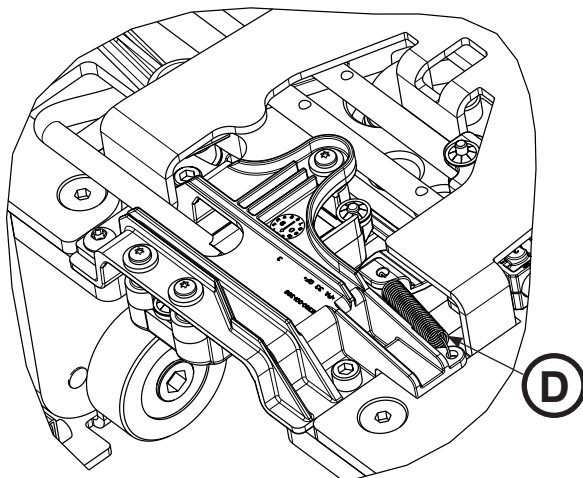

Figure 77
5. Remove the return spring (D) (Figure 77). Save for reinstallation.